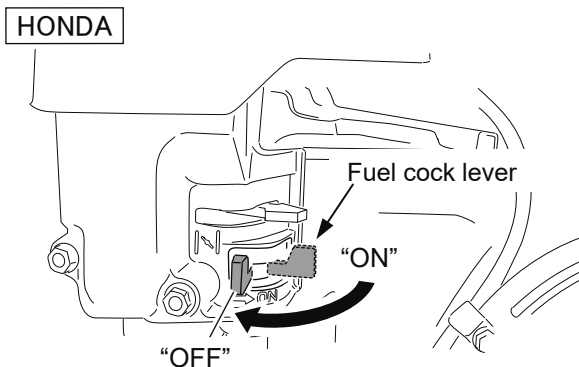

Fig.25
- 3 Move the fuel cock lever to the "OFF" position. (Fig. 25)